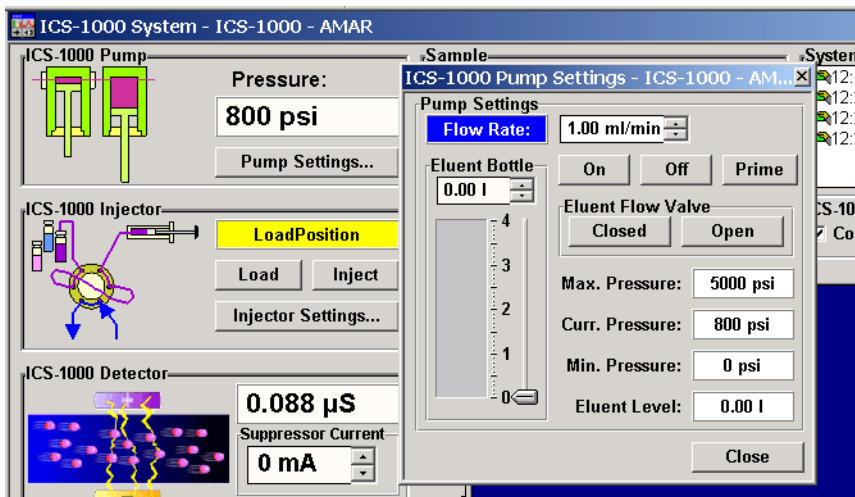

Figure B-36. Chromeleon Control Panel: Pump Settings
4. On the Chromeleon Control Panel, click **Pump Settings** and then click **Eluent Flow Valve Open** (see Figure B-36).
3. Click **Prime** on the Chromeleon Control Panel (see Figure B-36). The pump will begin pumping at approximately 3 mL/min.